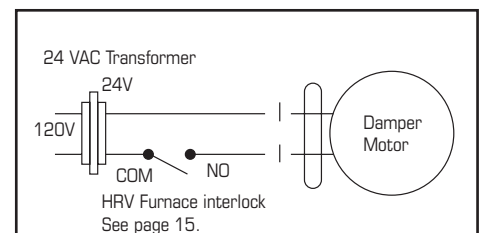

Figure 1
**If the ERV is installed such that the homeowner may turn off the ERV during the winter, we recommend installing a motorized damper between the HRV's supply air and the furnace's return air duct that closes when the ERV is not operating. See wiring diagram (figure 1). You may also choose to use a Fantech ERV that uses a recirculation defrost that incorporates an outdoor air damper.**